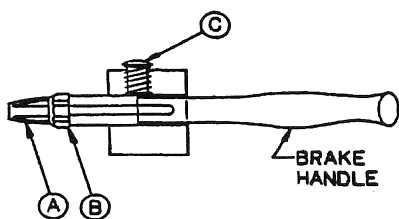

fig. 22
- Loosen the locking nut on the brake handle. (Item B, fig. 22, pg. 12)
- Turn the brake adjuster (Item A, fig. 22) out, away from the handle, a few turns.
- When the brake "holds", the correct adjustment is reached. Re-tighten the locking nut. (Item B, fig. 22).